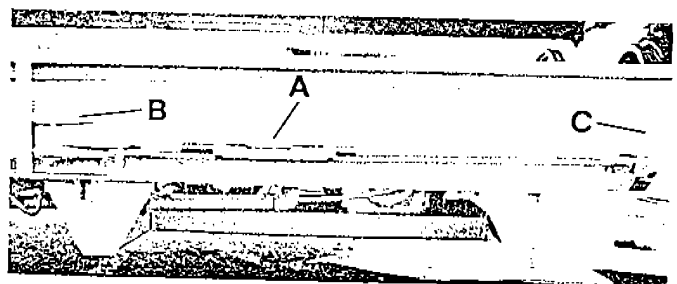

Fig. 94
- Secure the turnbuckle against the outrigger with a pin and snap key (a). Position the outrigger along the side of the trailer frame with the turnbuckle to the outside. The bottom of the sand shoe rests flat against the side of the trailer frame. Slide the edge of the sand shoe behind the vertical holding bar on the trailer frame (b). (Fig. 94)
- b. Rest the top of the outrigger on top of the support ear on the trailer frame. Align the holes in the end of the outrigger with the hole in the support ear. Drop a pin through the outrigger and the ear (c). *Snap Key in Place.* (Refer to Fig. 94)